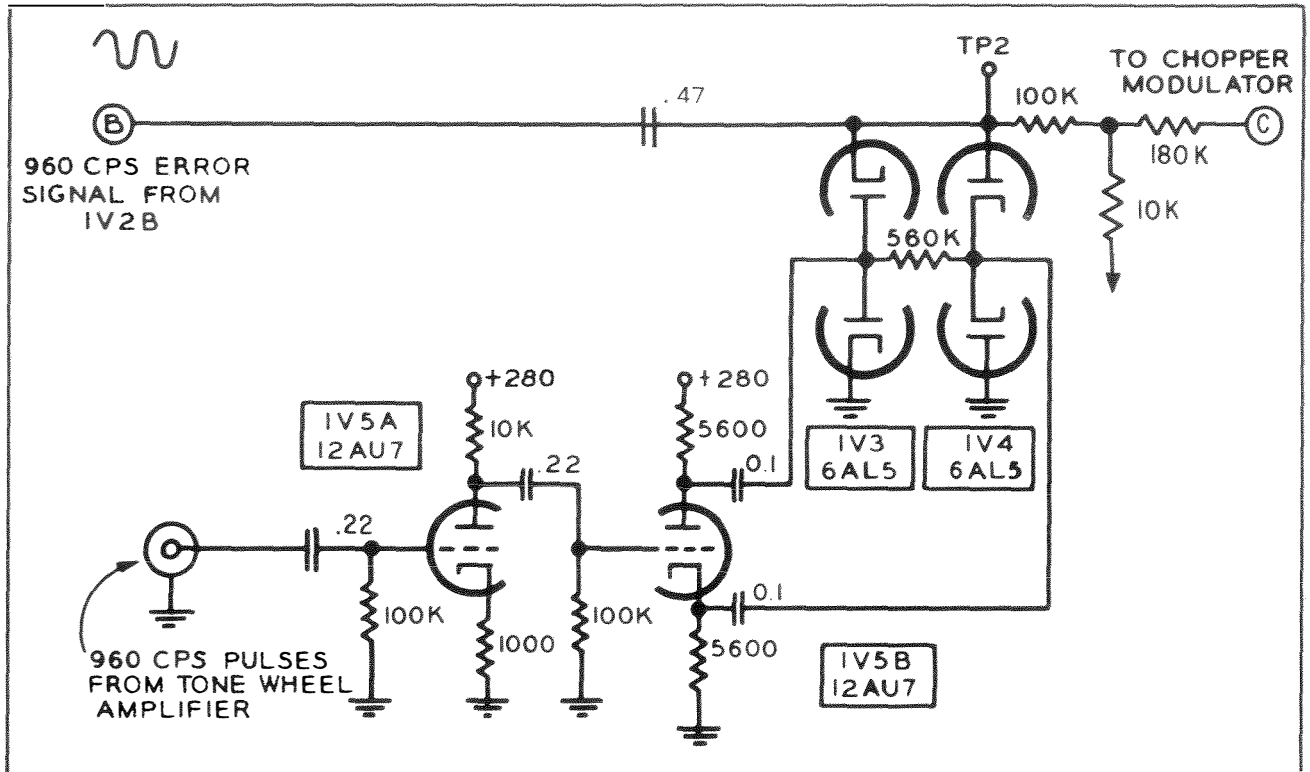

Figure VGS-7. Error Signal Rectifier
**Error Signal Rectifier**—Figure VGS-7 shows the bi-directional error signal rectifier and the clamping circuits closely related to it. The 960 cps error signal from the cathode of stage 1V2B is clamped by stages 1V3 and 1V4, which are keyed by tonewheel pulses introduced through stages 1V5A (voltage amplifier) and 1V5B (phase splitter). Diodes 1V3 and 1V4 are connected in a bridge circuit and remain open except during tonewheel pulse intervals. When the diodes conduct, the right side of the .47 mf capacitor is tied through a low impedance to ground. Whether the clamping pulses occur during the positive or negative half-cycle of the error signal depends upon the polarity of the 960 cps signal from the synchroguide, which in turn depends upon the direction of the timing errors. The smoothed dc voltage, at the output of the integrator network consisting of voltage divider network 1R15, 1R64, series resistor 1R65 and capaci-